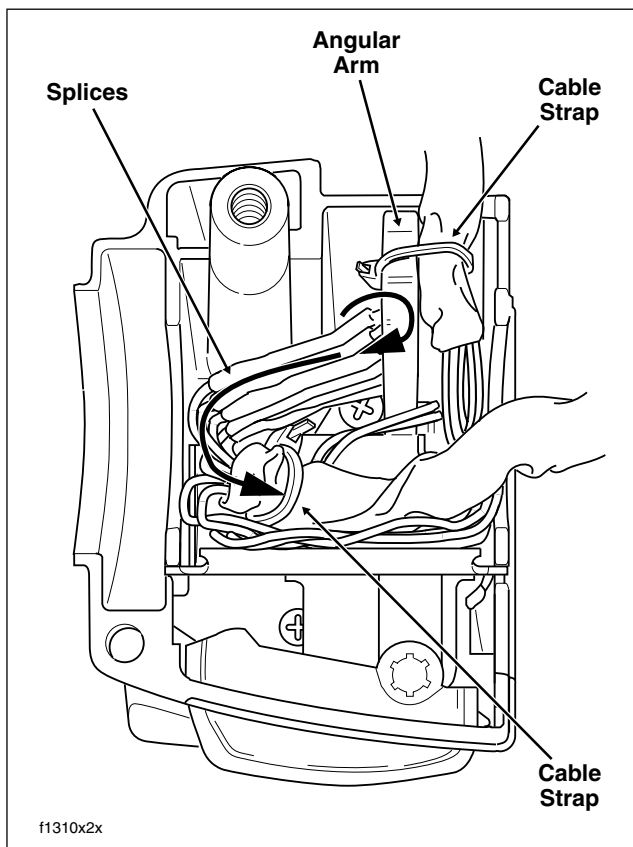

Figure 8-111. Lower Left Handlebar Switch Housing (With Splices) - Classic/Ultra Models
4. Loop switch wires so that spliced lengths are positioned as shown in Figure 8-111.
7. Route wire bundle to upper switch housing below and then forward of the main wire harness positioning conduit in channel next to angular arm of bracket. See Figure 8-111. Secure bundle to arm using **new** cable strap. Cut any excess cable strap material.